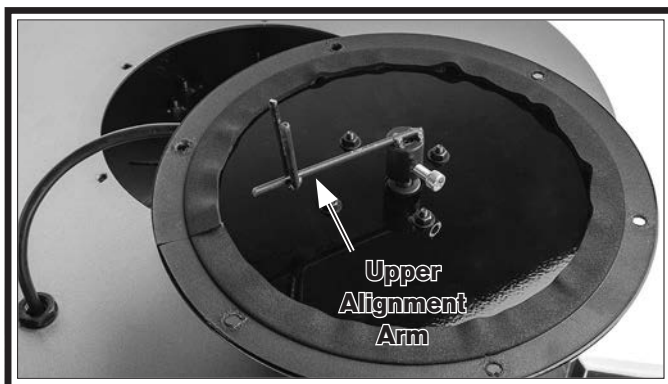

Figure 25. Underneath filter cover assembly.
30. Position filter cover assembly over housing assembly. Rotate lower alignment arm so upper alignment arm on underside of cover assembly (see **Figure 25**) captures lower arm when mounting holes align to housing.